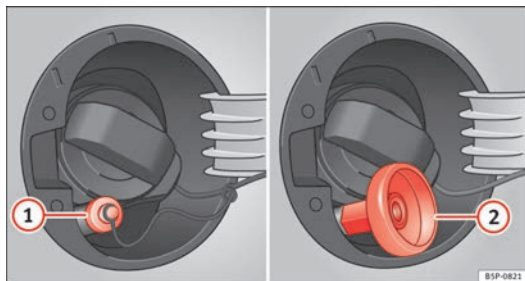

Fig. 160 Fuel tank open with LPG filler neck and adapter
- Remove the plug from the gas filler mouth ⇒ Fig. 160 ①.
- Screw the required adapter ② on the LPG gas filler neck.